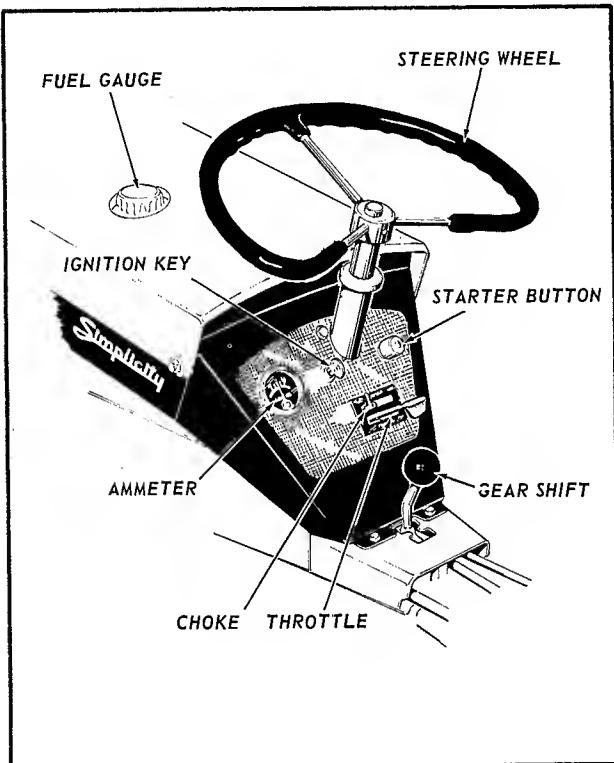
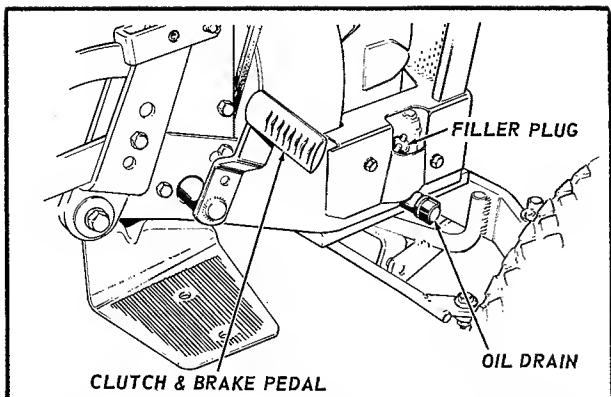

Fig. 12
Fig. 15
Engine - Service air cleaner and crankcase as recommended in engine service manual. Be sure air cleaner is maintained in clean condition. Never use oil in crankcase for more than 25 hours of operation. See figure 15. **CLEAN AIR AND CLEAN ENGINE OIL WILL GIVE LONG TROUBLE FREE OPERATION. DIRT WILL RUIN YOUR ENGINE IN A SHORT TIME.** A funnel and extension are included with the tractor for use in changing oil.
1. Place gear shift lever in neutral position. See figure 12. (Be sure tractor is on level ground and will not roll away in neutral. Apply parking brake.)
2. Place choke lever in "CHOKE" position. See figure 12 & 13.
3. Set throttle lever in mid position and turn ignition key to "ON". See figure 12. Press starter button to start engine and release. As engine warms up, return choke lever to "RUN" position.
3. Place choke lever in "CHOKE" position. See figure 12 & 13.
4. Place throttle lever in mid position and turn ignition key to "ON" position. See figure 12.
To place gear shift in desired gear range, depress the combination brake and clutch pedal located on right hand side of tractor. See figure 15. When pedal is depressed move shift lever to desired position (see figure 12) and gradually release pedal until clutch is engaged. When shifting from one range to another, pause briefly in neutral before completing shift. Set throttle lever to obtain desired speed. See figure 12.